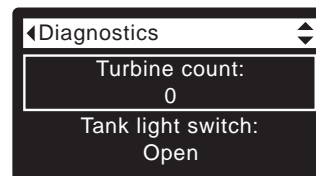

FIG. 100
2. Press the DOWN (▼) button to scroll through the list until **Turbine Count** is displayed (See Figure 100).